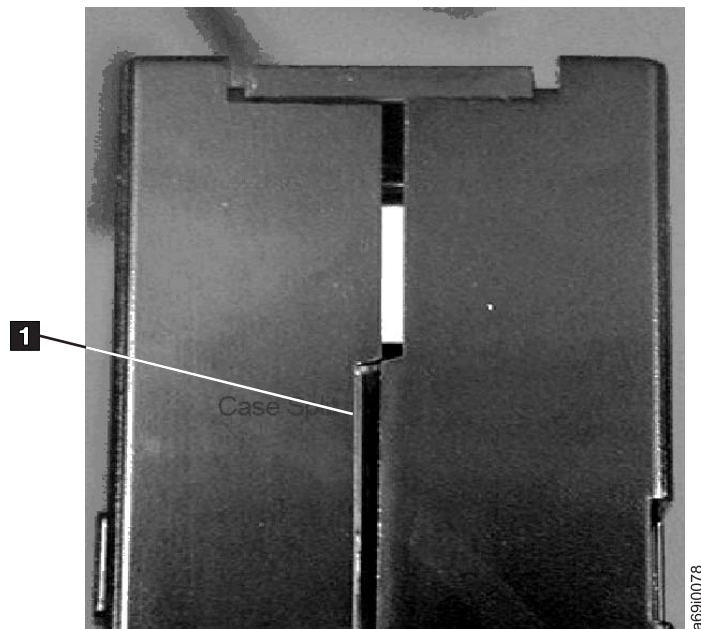
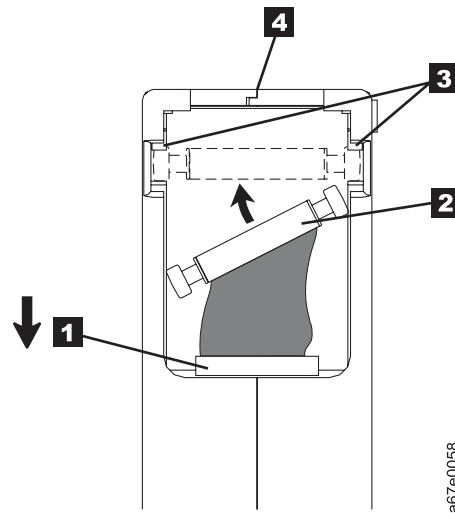

Figure 9-4. Checking for gaps in the seams of a cartridge
Figure 9-8. Placing the dislodged leader pin into the correct position
- Inspect the rear of the cartridge (the part that loads first into the tape load compartment) and ensure that there are no gaps in the seam of the cartridge case (see **1** in Figure 9-4 and **4** in Figure 9-8 on page 9-16). If there are gaps in the seam (see Figure 9-4), the leader pin may be dislodged.
- Check that the leader pin is properly seated (see **2** in Figure 9-8 on page 9-16).
To reposition the leader pin, refer to Figure 9-8 and perform the steps below.